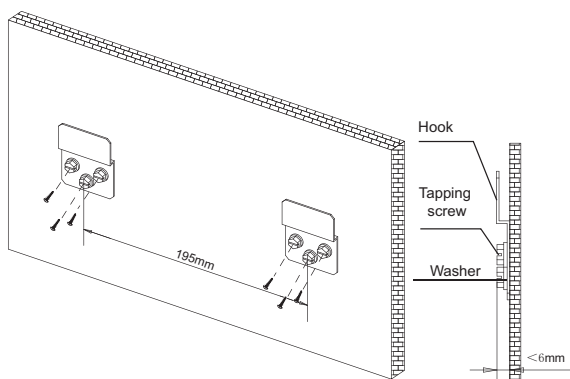

Fig.5-5
- Fix the hook with tapping screw onto the wall which can support the weight of the indoor unit. (Refer to Fig.5-5)